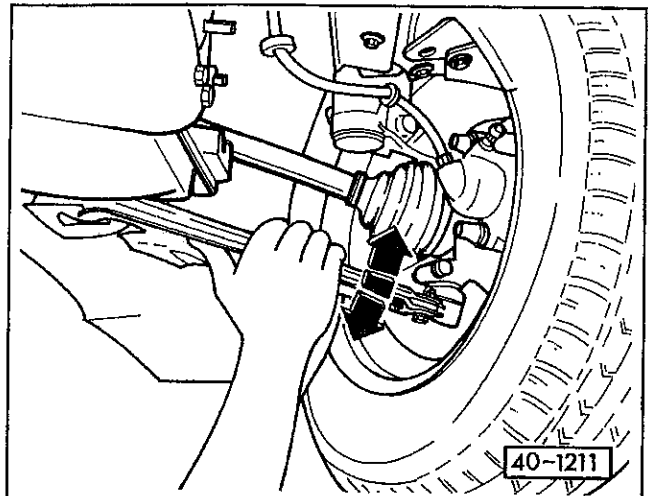

Fig. 2. Ball joint axial play being checked. Push/pull control arm (arrows) to check for play.
1. Check the ball joint axial (up-down) play as shown in Fig. 2. Replace the joint if any play is present.